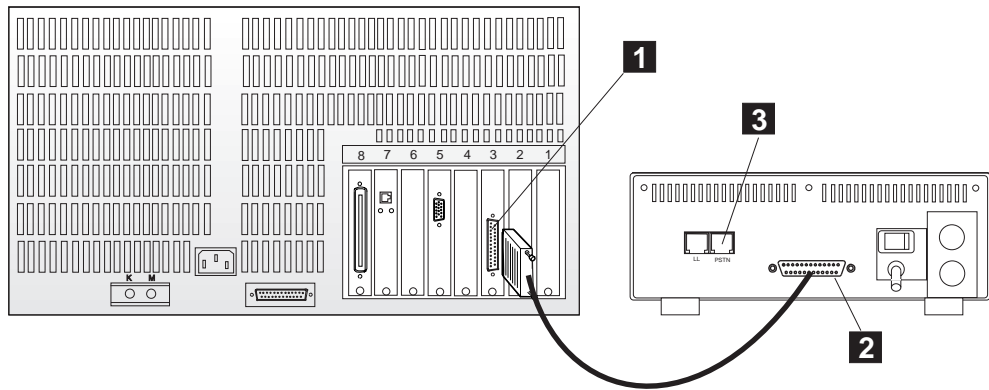

Figure 1-86. Connecting the Service Processor (3172) from MPA Card to the 7857
- **3172**, refer to Figure 1-86